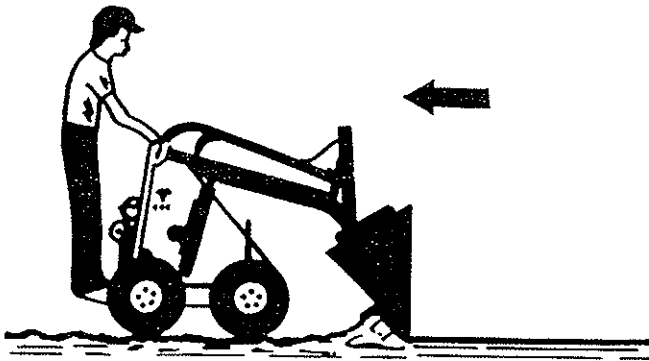

FIGURE 15
2. To level a filled area, tilt bucket forward and drive machine backwards to drag bucket and spread material, as in Figure 15.